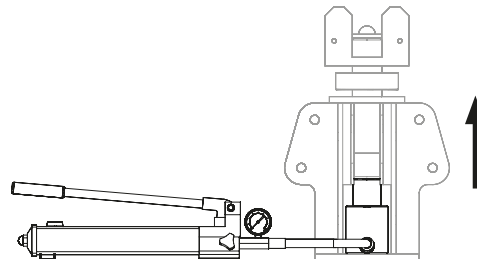

Fig. C2.01b
2. Pump up the hydraulic cylinder (50.1) to the required height (min. 50 mm). (Fig. C2.01b)